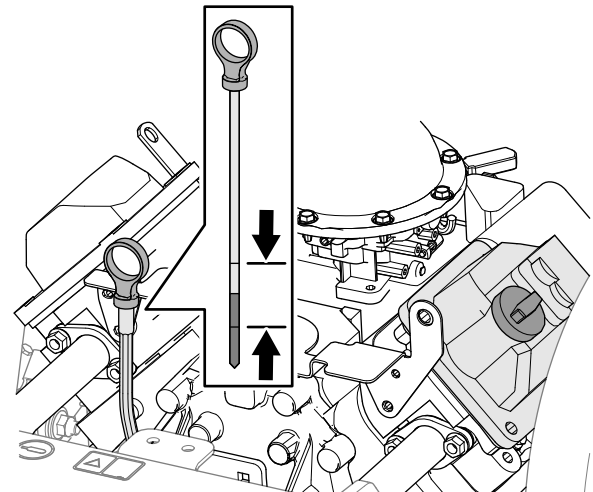

Figure 75
4. Remove the dipstick (Figure 75) and wipe it with a clean rag.
5. Insert the dipstick into the tube (Figure 75) until it is fully seated.